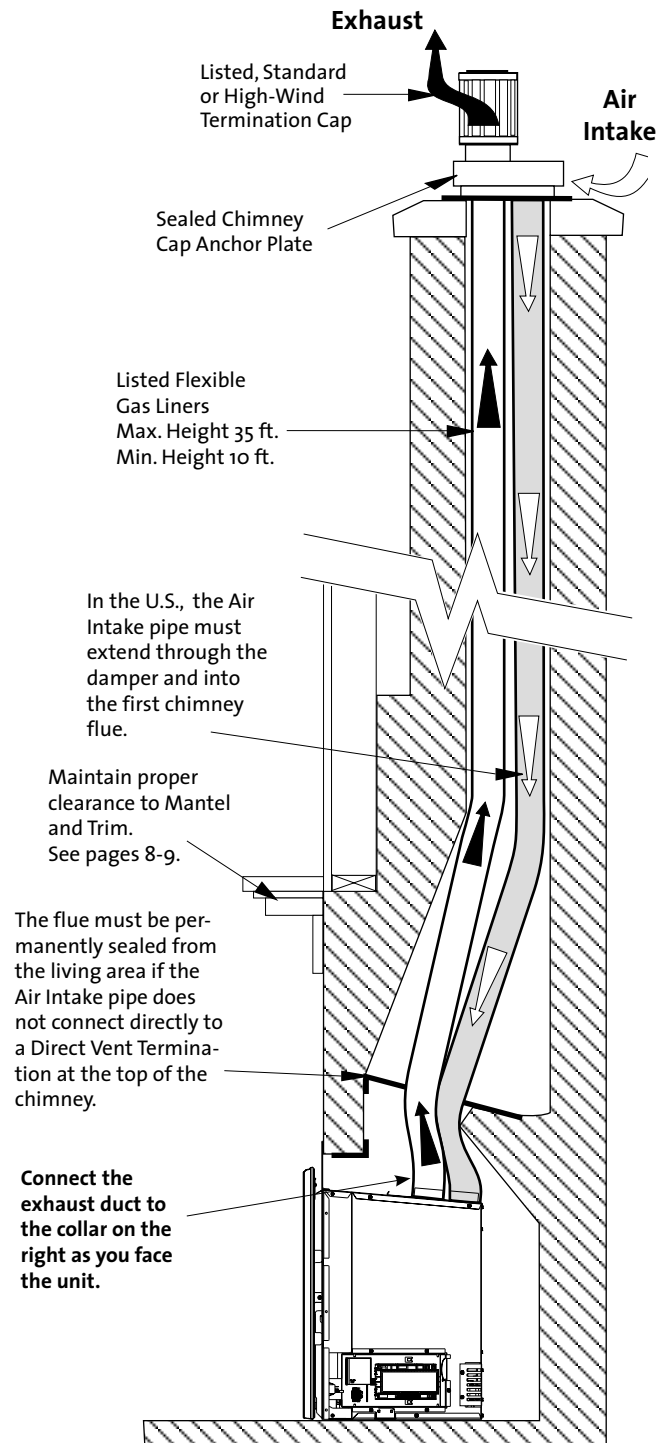

Figure 7. Masonry Fireplace Venting Configuration.
- The minimum height of termination cap from the top of the unit shall be no less than 10 ft.(3.05 m), and the maximum height shall be no more than 35 ft. (10.67 m). See figures 7 and 8.
This appliance must be vented through the chimney by a pair of 3 inch flexible aluminum liners listed for use with gas appliances. One duct is attached to the exhaust port on the top of the unit and will carry the exhaust gases to the outside of the house. This exhaust liner must run the full length of the chimney and be directly connected to the chimney termination cap. See figure 7 and 8.
The other 3 inch liner will be attached to the air intake port and will provide fresh air for combustion to the unit. This liner must extend through the damper area of the fireplace and at least into the first tile liner of the chimney. (U.S. ONLY). This liner can also extend the full length of the chimney and connect to the termination cap. See **NOTICES** below. See also figures 7 and 8.
If the intake flex does not extend the full length of the chimney and connect to the unit and the termination cap - **A METAL BLOCK OFF PLATE MUST BE CONSTRUCTED AND INSTALLED ABOVE THE UNIT BELOW THE END OF THE INTAKE DUCT** (normally at the damper area). See figure 7.